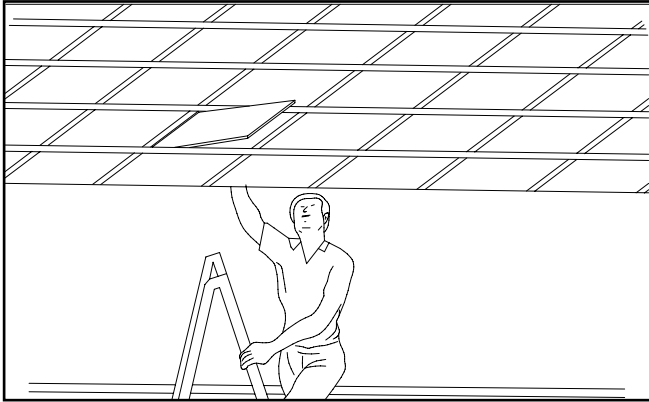

Figure 1.
2. Determine the location where the light needs to be installed and push open the ceiling. Do not discard the ceiling tile. See Figure 1.